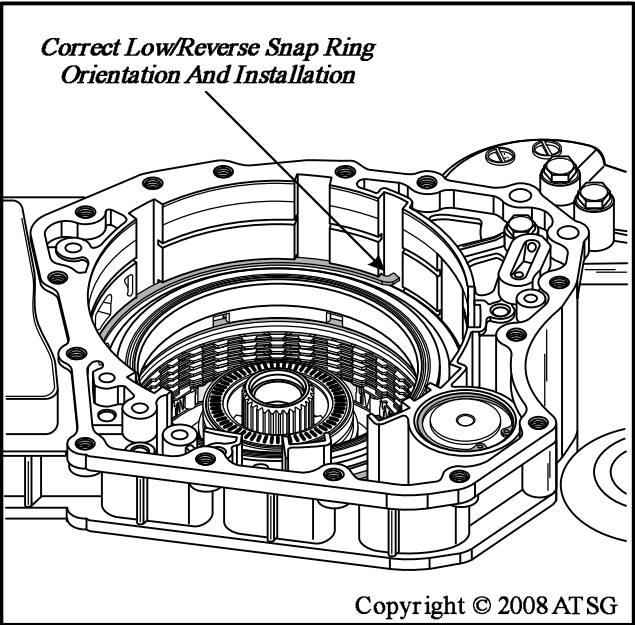

Figure 192
**Note:** Snap ring orientation must be as shown in Figure 192.